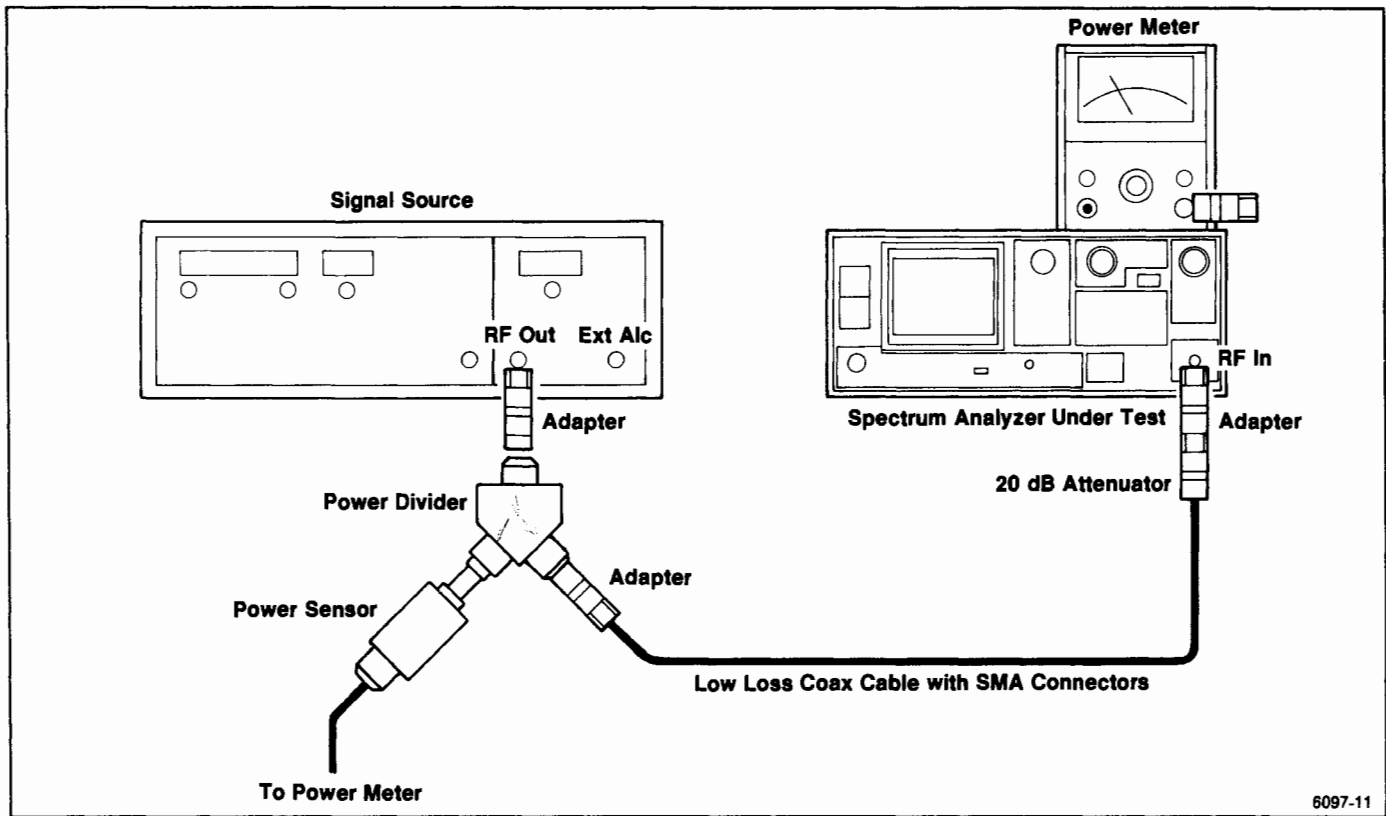

Figure 4-13. RF attenuator test equipment setup.
a. Connect the test equipment as shown in Figure 4-13. Set the Spectrum Analyzer controls as follows:
b. Connect the test equipment as shown in Figure 4-13. Set the Spectrum Analyzer controls as follows: